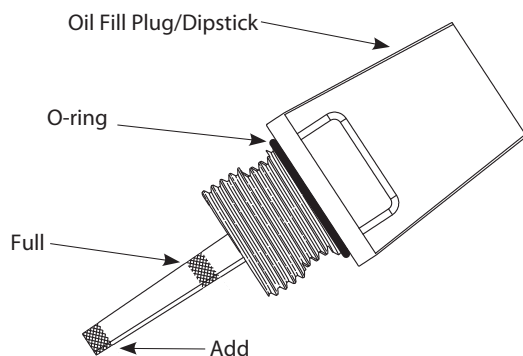

Fig. 16
5. Remove the oil fill plug/dipstick and check the oil level. Oil should be between the add and fill marks (Fig. 16).
NOTE: Make sure the O-Ring is in place on the oil fill plug/dipstick when checking and changing the oil (Fig. 16).
NOTE: Use the bottle saved from initial use to measure the correct amount of oil. The bottle measures approximately 2.5 fluid oz. (75 mL) (Fig. 16).